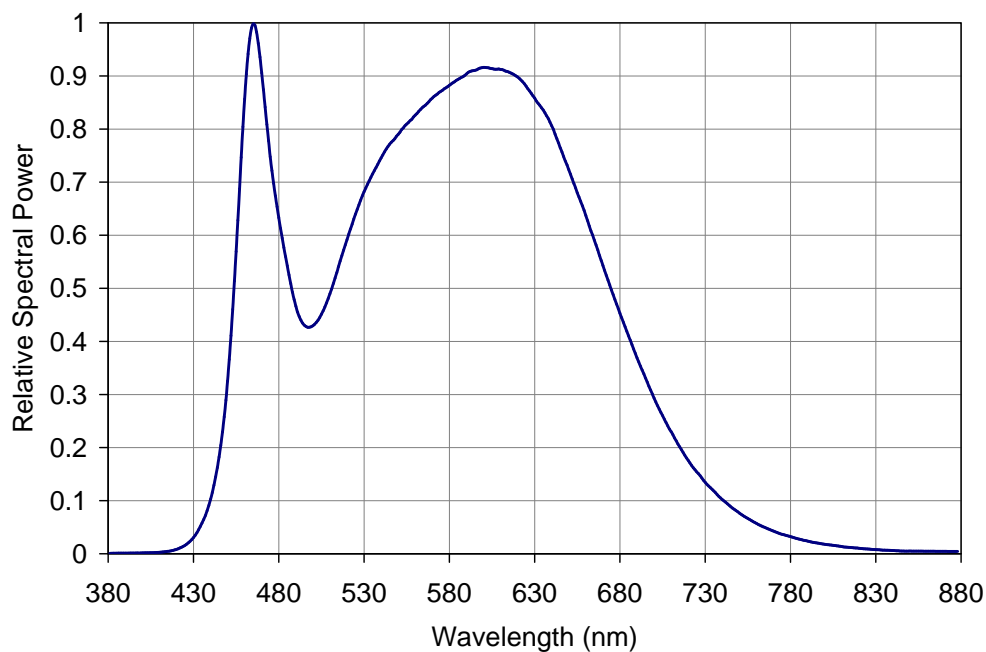

Figure 5: Relative spectral power vs. wavelength @ $T_c = 25^\circ\text{C}$.
- Solder conditions per JEDEC 020D. See Reflow Soldering Profile Figure 5.